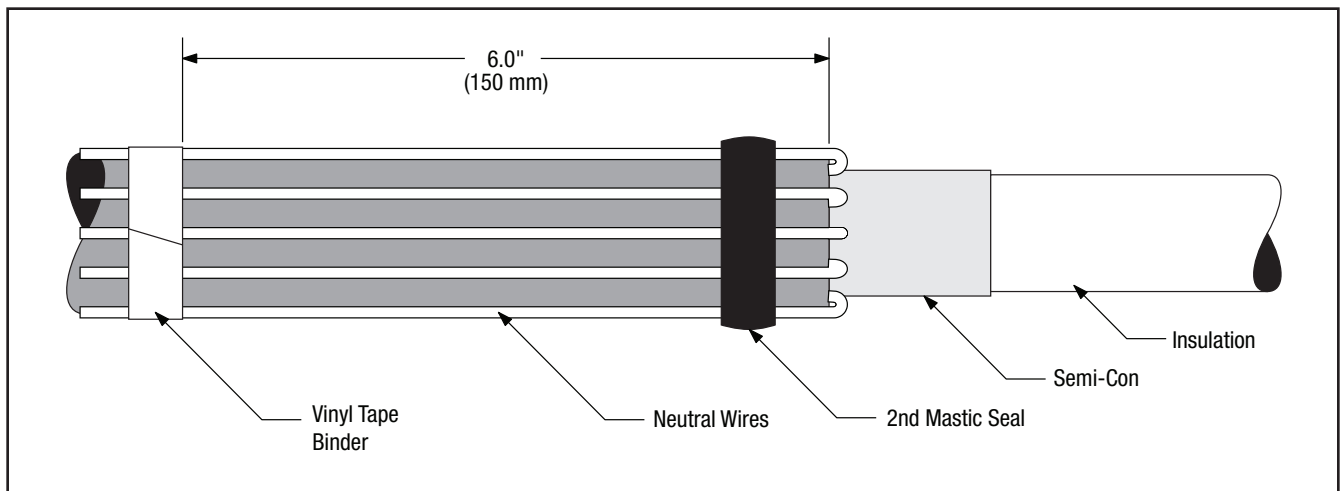

Figure 3
- 1.4 Bend neutral wires back over applied sealing mastic and secure to cable jacket with vinyl tape 6" (150 mm) below jacket cutback. (*Figure 3*)
- 1.5 Select the roll of 1" (25 mm) wide 3M™ Scotch-Seal™ Mastic 2229 from the kit and cut a length of the mastic. Remove the release liner and, using a light tension, apply a single wrap of mastic around the cable jacket over the neutral wires and previously applied mastic. (*Figure 3*)